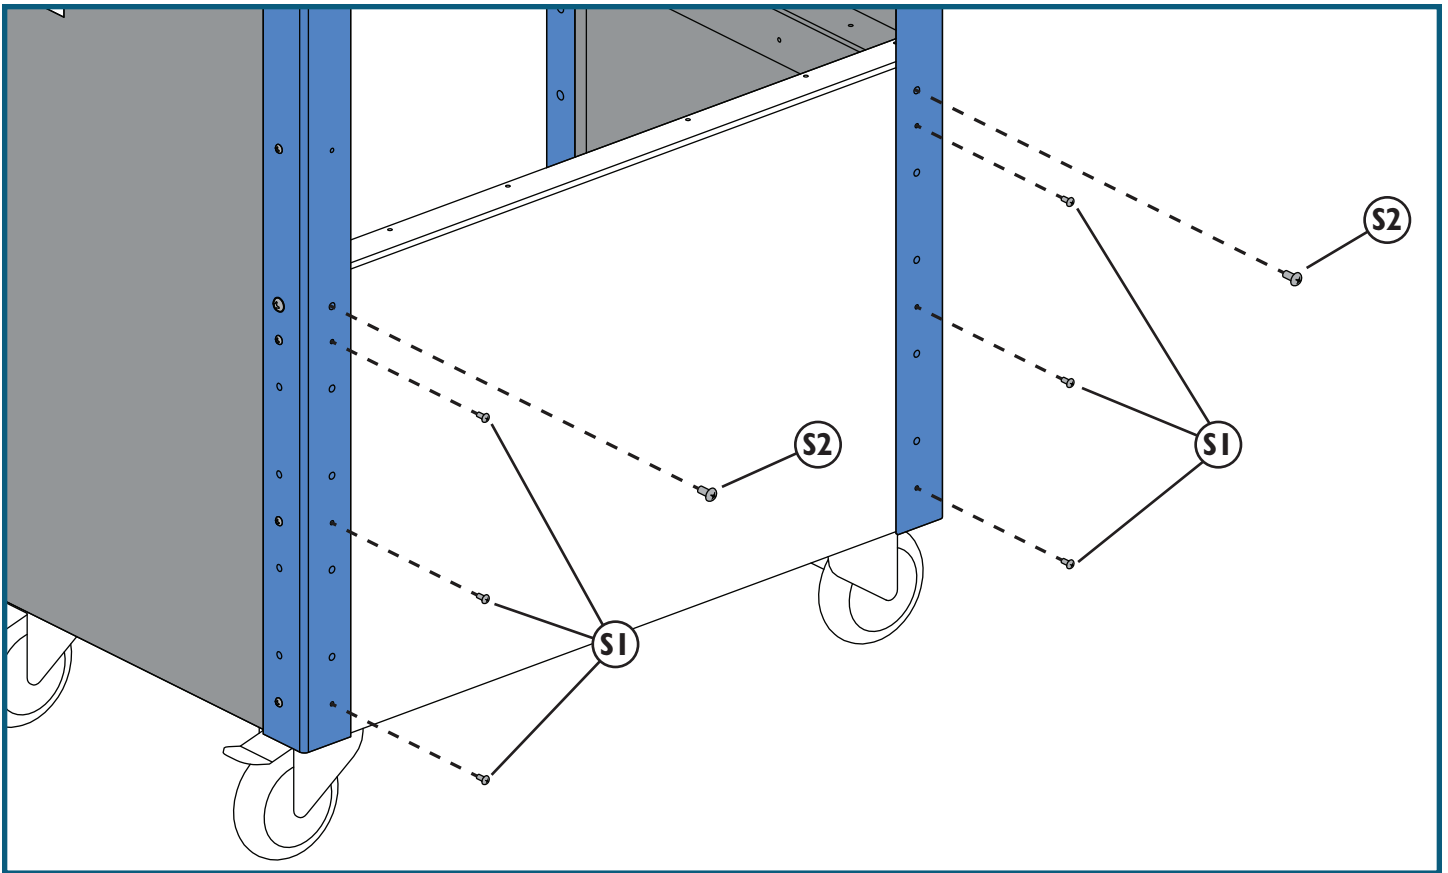

Fig. 8
9. Attach the Left and Right Side Panel assemblies to the Back Panel (14) with three M4 x 3/8" Pan-Head Self-Tapping Screws (S1) driven into the three smaller mounting holes in each of the Rear Corner Brackets (8). Then drive two M6 x 1/2" Pan-Head Self-Tapping Screws (S2) into the larger mounting holes in each of the Rear Corner Brackets aligned with the holes in the rear flanges of the Left and Right Drawer Slide Brackets (12 and 13). **Fig. 8.**